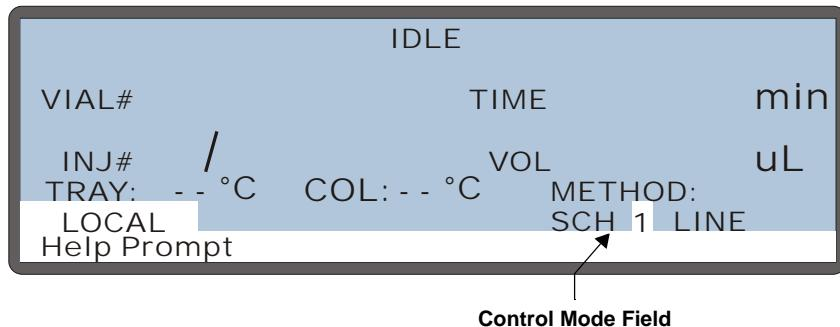

Figure 3-6. Main Status Screen—Schedule Control Mode
2. Position the cursor in the control mode field and press **Select** Δ or **Select** ∇ to toggle to **SCH** (schedule) control (see Figure 3-6).